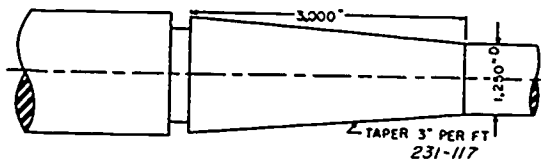

Figure 4-87. Dimensioning tapers.
**Tapers.** A taper is a conical surface of a shaft or a hole. The method of dimensioning tapers depends on the method of manufacture and the accuracy required. If the specification calls for a standard taper, the dimension indicates one diameter and the length. The general method shows the diameters of both ends and the taper per foot. An alternate method is shown in figure 4-87. This method gives one diameter, the length, and the taper per foot. The taper per foot is defined as the difference in diameter in inches for one foot of length.